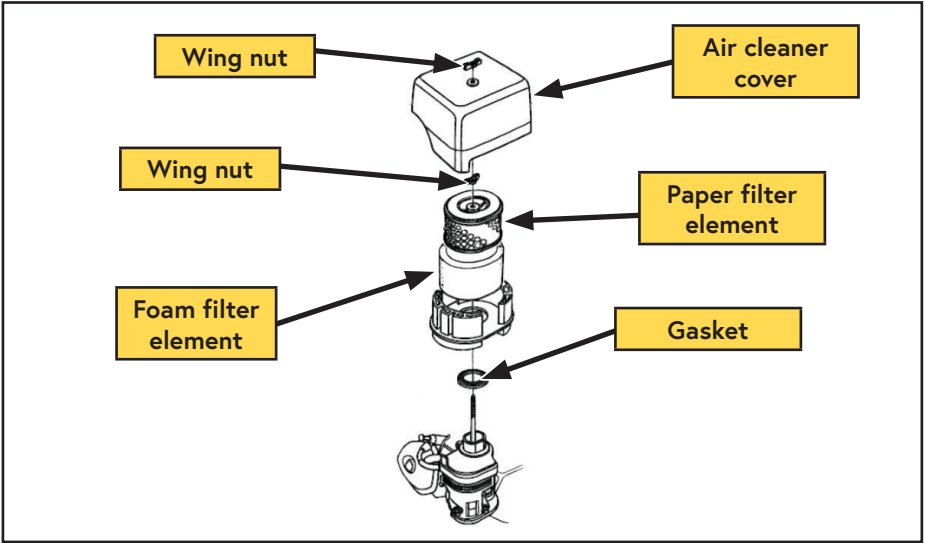

Figure 39 — Replacing the dual element air filter
- ☐ Remove the wing nut from the air cleaner cover, and remove the cover (Figure 39).